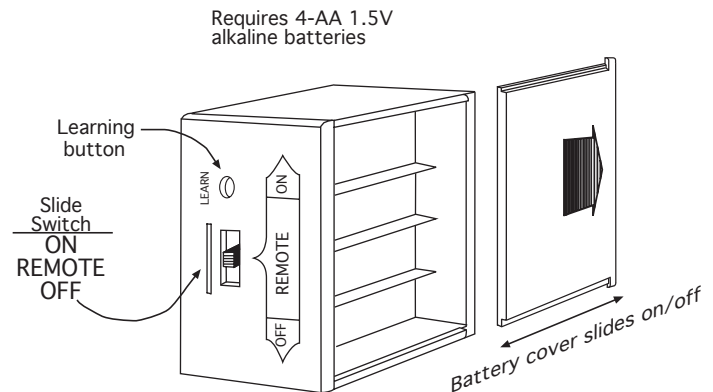

Fig. 11 Remote Receiver
The remote receiver houses the microprocessor that responds to commands from the transmitter to control system operation. It emits one beep when it receives an ON or OFF command manually, but no beep when cycling on and off automatically in THERMO mode. The remote receiver has a 3-position slide switch (Fig. 11) for selecting the ON/REMOTE/OFF mode of operation:
**First**, install (4) AA-size 1.5 **ALKALINE** batteries in the remote receiver (Fig 11). For best performance, remote receiver batteries should be factory fresh when installed. The system operates best when battery output is greater than 5.3 volts. Four (4) new AA batteries should provide an output voltage of 6.0 to 6.2 volts. **Be sure batteries are installed with the (+) and (-) ends facing the correct direction.**